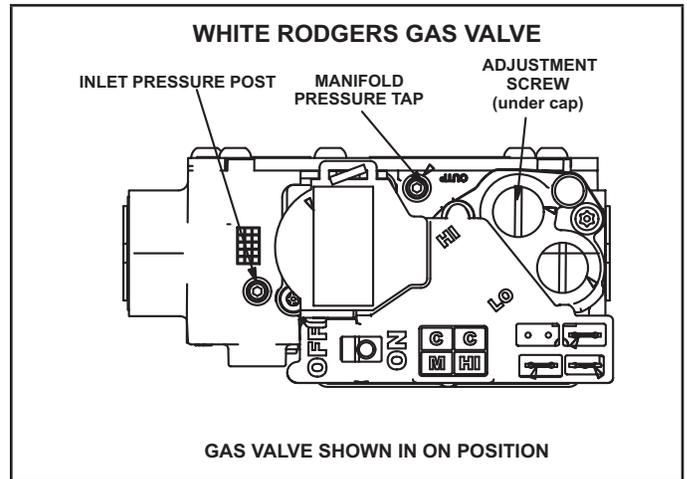
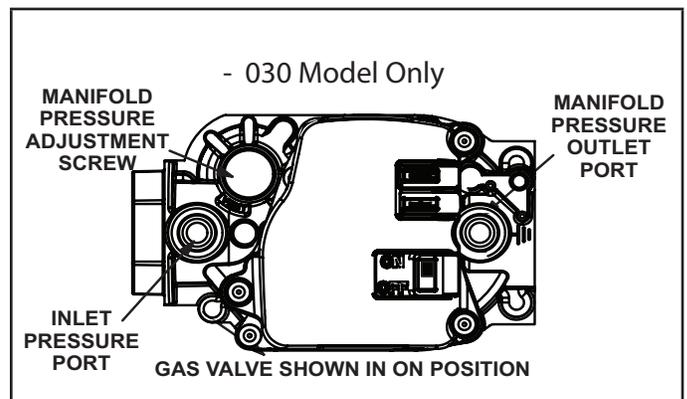

FIGURE 35
FIGURE 36
Gas Valve Operation (FIGURE 35 and FIGURE 36)
- 6 - Move switch on gas valve to OFF. Do not force. See FIGURE 35 and FIGURE 36.
- 8 - Move switch on gas valve to ON. Do not force. See FIGURE 35 and FIGURE 36.
- 4 - If necessary, make adjustments. FIGURE 35 and FIGURE 36 show location of adjustment screw.